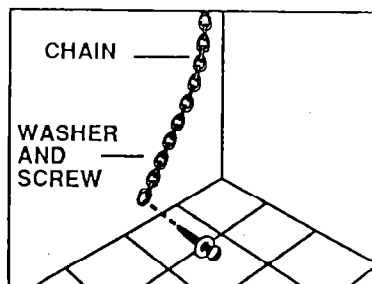
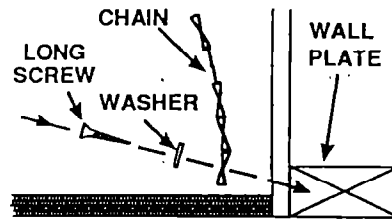

Fig. 13
Fig. 14
2. Fasten one end of the stability chain to the floor or wall with the long screw and washer supplied. See Fig. 13. Make certain the screw is going into the wall plate at the base of the wall or one of the studs in the base of the wall. See Fig. 14. Whether you attach the chain to the wall or floor, be certain that the screw is in at least 3/4" thickness of wood other than base-board and that there are no electrical wires or plumbing in the area which the screw could penetrate. Attach the stability chain in a location which will allow the chain to be in line with the bracket side to side as much as possible when attached to the unit. Test to see if the chain is securely fastened by tugging on the chain.